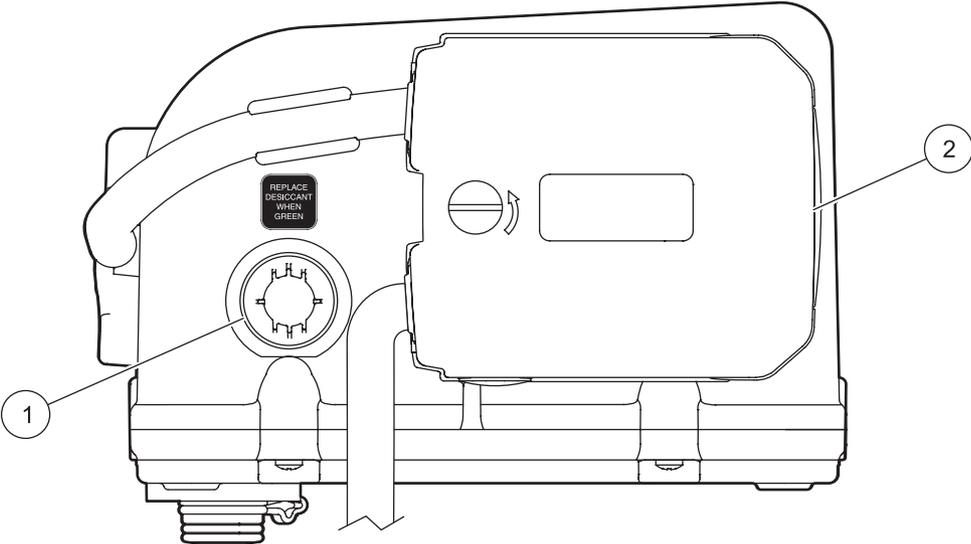

Figure 29 Side view of controller—pump and desiccant
Monitor the desiccant color through the clear plastic window (Figure 29). The color will change from yellow to green when the desiccant is saturated.
1. Unscrew and remove the desiccant holder from the controller (Figure 29).